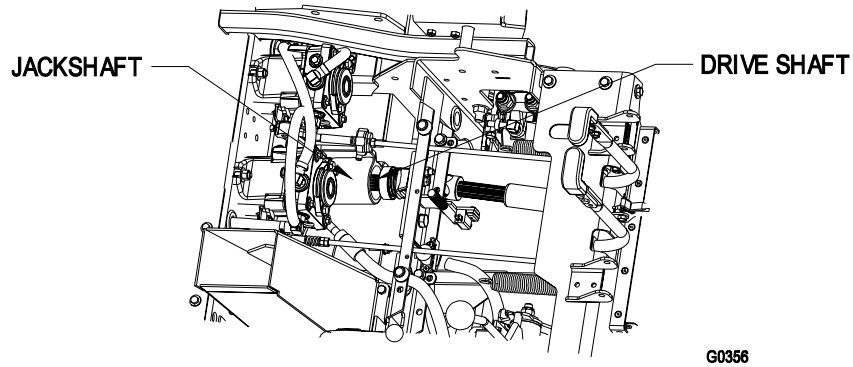

FIGURE 1
- c) Raise seat and install drive shaft onto jackshaft (See Figure 1).
- Raise seat and disconnect drive shaft using quick coupler at jackshaft. See Figure 1.